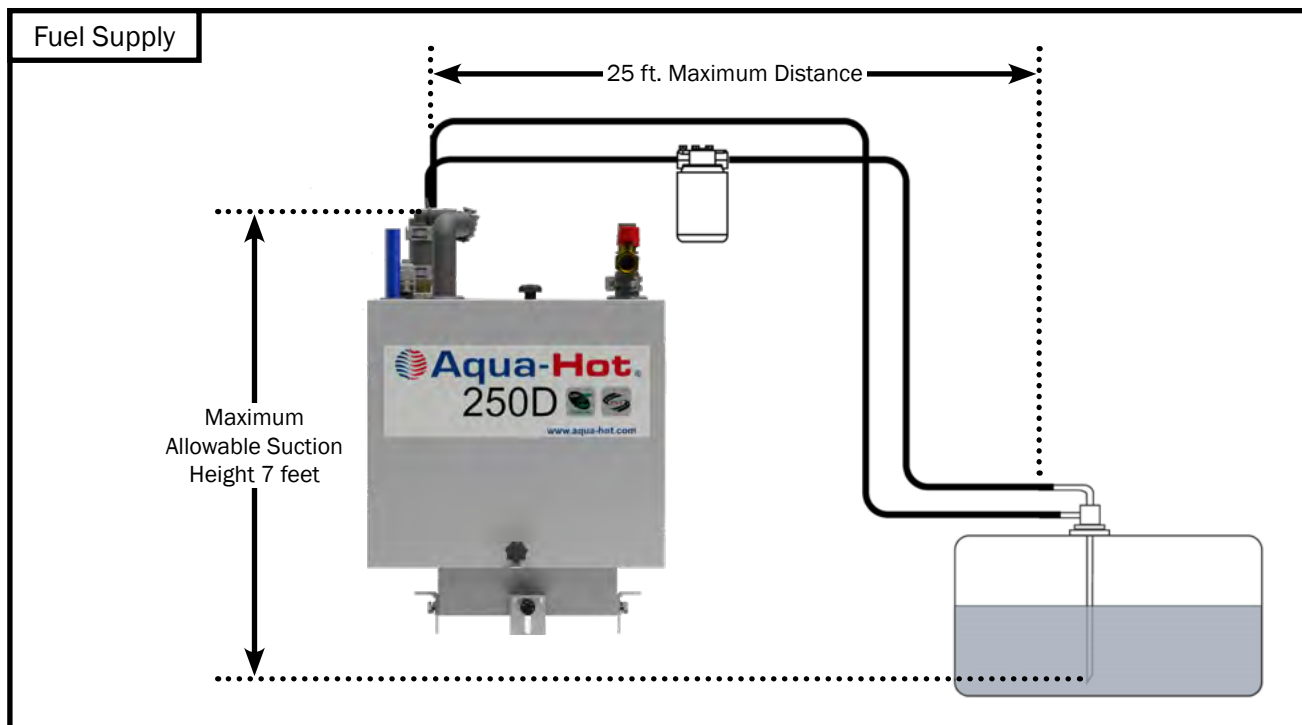

Figure 34
- The maximum allowable suction height is 7 feet. Reference Figure 34.